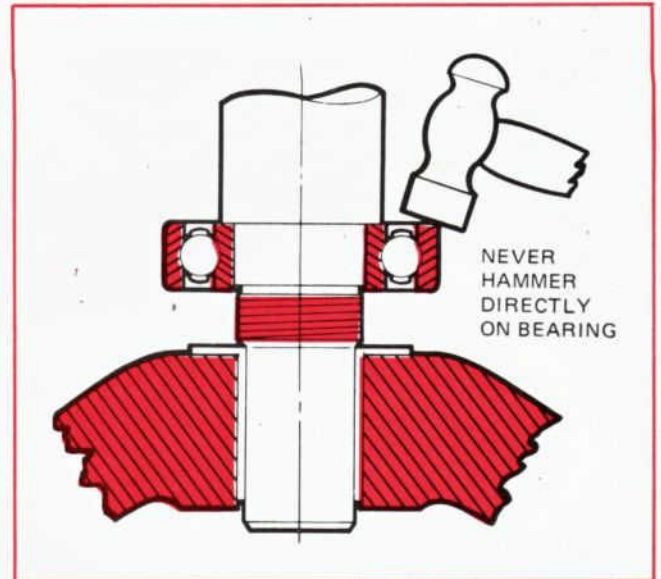

Figure 18 – NEVER pound on the bearing ring.
2. Never pound directly on the bearing ring! You'll probably ruin both the bearing and the shaft. (Fig. 18).